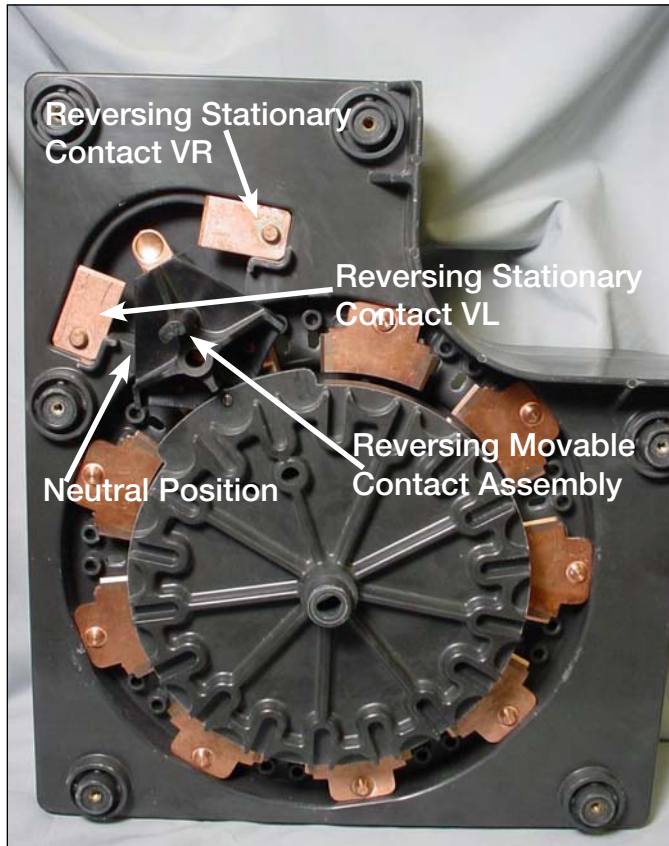

Figure 16.
1. The main movable stationary contact must be located on the neutral stationary contact located under the reversing movable contact arm. The reversing movable contact buttons must be located in the center space between the VR and VL stationary contacts. See Figure 16.